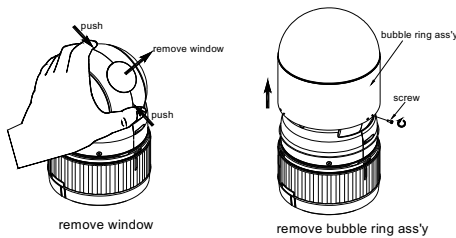

Figure 2. Remove the Window and the Bubble Ring Ass'y
- Note : It is recommended to remove the Window and the Bubble Ring Ass'y of the Dome Camera to improve the quality of picture. (Refer to the Figure. 2)
9. Insert the Rubber Gasket (7) into the Body (6) and fasten the Bubble Ring (11) to the Body (6) using 3 screws (13).